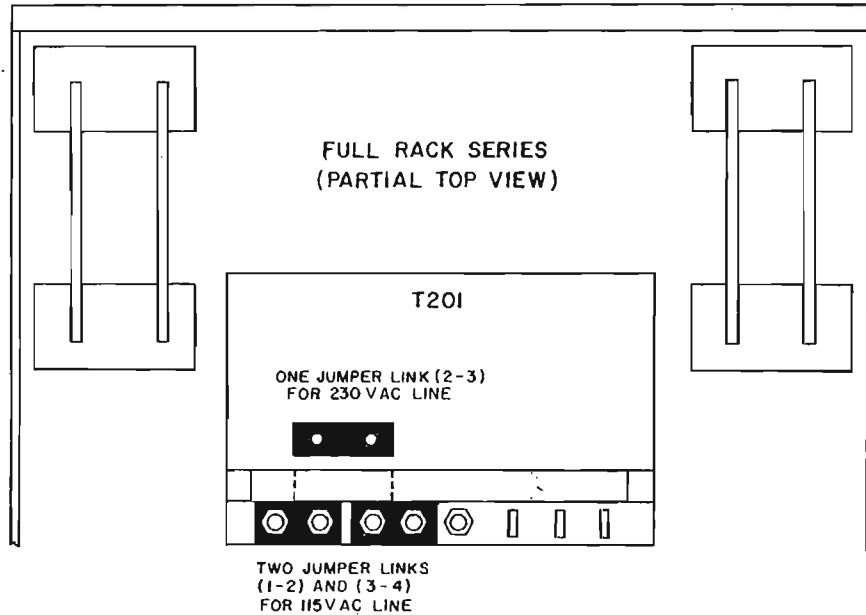

FIG. 2-2 CONVERSION TO 230V A-C NOMINAL LINE OPERATION
- 2-5 This power supply is normally supplied for operation on a single phase, nominal 115V AC line. For conversion to 230V AC line operation, refer to FIG. 2-2. Remove the two links between transformer terminals (1)-(2) and (3)-(4). Reconnect one (1) link between terminals (2) and (3). DO NOT CHANGE ANY OTHER WIRING ON THE TRANSFORMER.